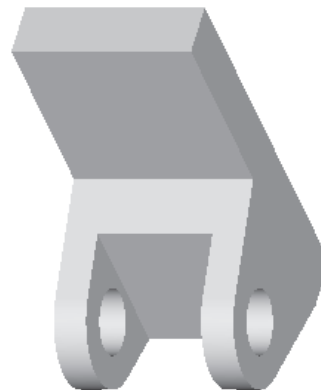

Figure 5-64 The default trimetric view of the model
apply the dimensions, and then extrude the sketch to both sides of the plane, see Figure 5-64.
13. Choose the **Preview** button from the **CUT** dialog box and then choose **OK**. The cut feature is completed now and the default trimetric view of the cut feature along with the base feature is shown in Figure 5-64.